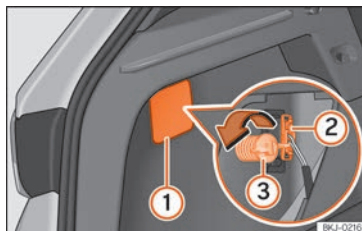
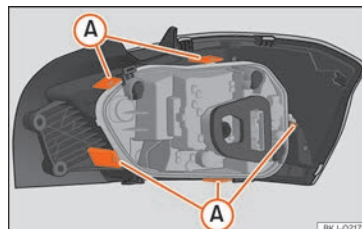

Fig. 60 Luggage compartment: access to the bolt securing the tail light unit.
Fig. 61 Retaining tabs on reverse side of tail light.
- Remove the lid, levering the flat side of a screwdriver into the recess » **Fig. 60** ①.
- Remove the bulb connector ②.
- Unscrew the light securing bolt ③ by hand or using a screwdriver.
- Remove the bulb holder unlocking the retaining tabs » **Fig. 61** A.